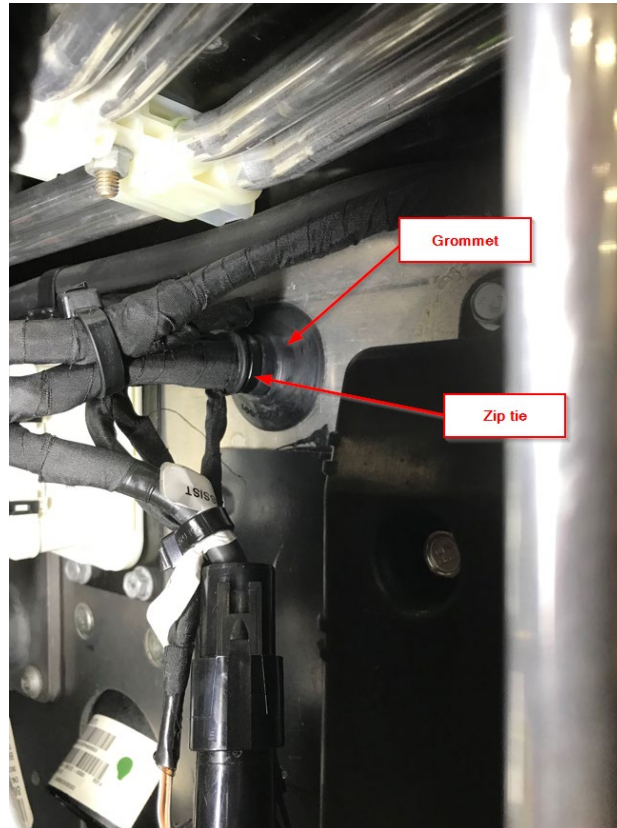

Fig. 12, Cable Tie on the Engine Side of the Pass-Through Grommet
- 9.5. Locate the grommet passing through the firewall on the driver's side and remove the cable tie from the grommet on the engine side of the firewall as shown in **Fig. 12**.